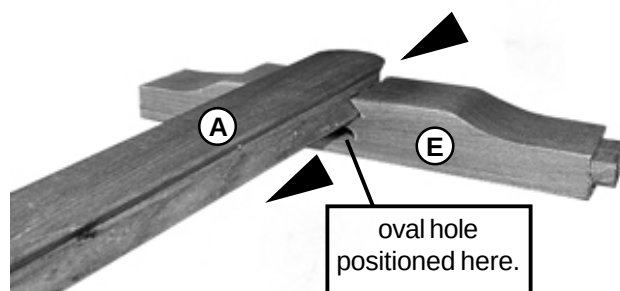

FIG 10
STEP 10. Attach Upper Cross Member [E] by sliding it over the top of the Center mast Column [A] and continue sliding it down along the channels. PLEASE NOTE: Make sure that you have the Upper Cross Member in the correct position, by making sure the oval hole is on the bottom edge. See FIG. 10.